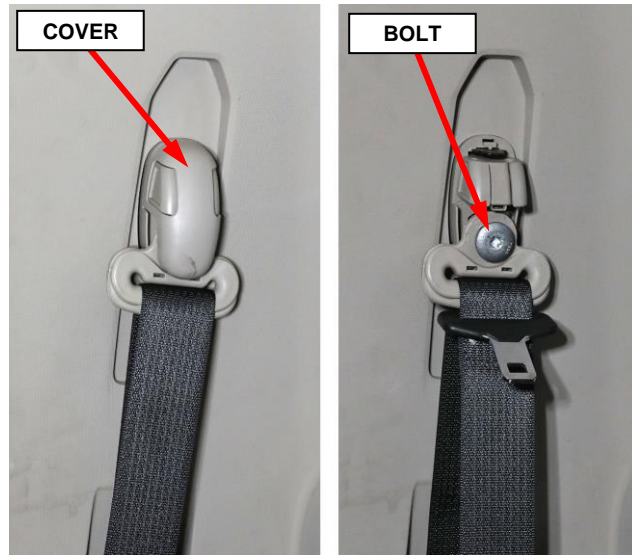

Figure 19 – Seat Belt Turning Loop
- On the B-pillar, separate the seatbelt turning loop cover then remove the turning loop bolt (Figure 19).
54. Using a **NEW** bolt and reusing the spacer washer, install the turning loop then tighten the bolt to 40 N·m (30 ft. lbs.) (Figure 19).
55. Install the seat belt turning loop cover (Figure 19).